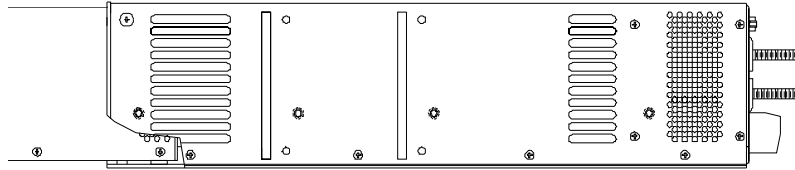

FIGURE 3. MODULE INSERTION, STEP B
B. Lift the front of the module until the bottom is approximately parallel to the bottom of the rack adapter and gently begin sliding in the module, maintaining support with both hands as needed to prevent the bottom of the module from scraping against the lip of the rack adapter (see Figure 3).